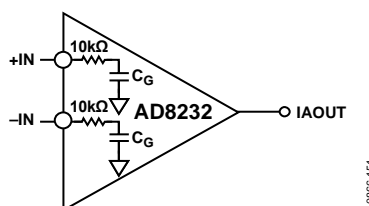

Figure 52. RFI Filter Without External Capacitors
Radio frequency (RF) rectification is often a problem in applications where there are large RF signals. The problem appears as a dc offset voltage at the output. The AD8232 has a 15 pF gate capacitance and 10 k $\Omega$  resistors at each input. This forms a low-pass filter on each input that reduces rectification at high frequency (see Figure 52) without the addition of external elements.